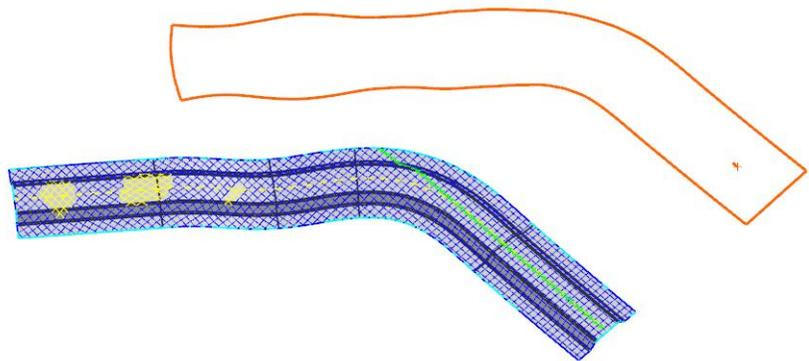

Figure 5–44
- Switch to NX and review the flat pattern created. Flat pattern for P001 is shown in Figure 5–44.